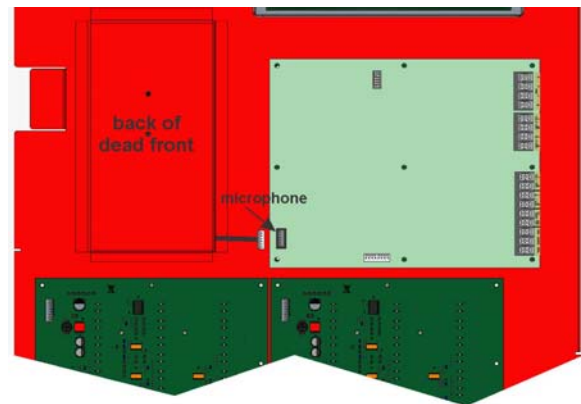

Figure 1.4 Microphone Cord Inserted Through the Dead Front Panel Hole
2. Insert the microphone cord through the hole at the bottom of the dead front panel. See Figure 1.4.